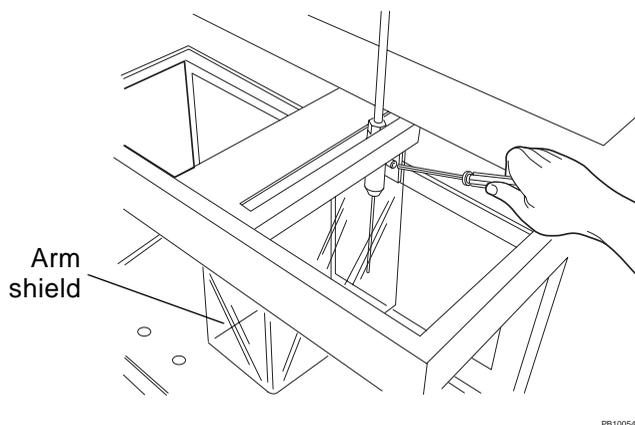

Figure 2-5 Attaching the Arm Shield
1. Place the arm shield (provided in the AFC 2000 Install Kit) around the arm of the AFC 2000 (Figure 2-5).